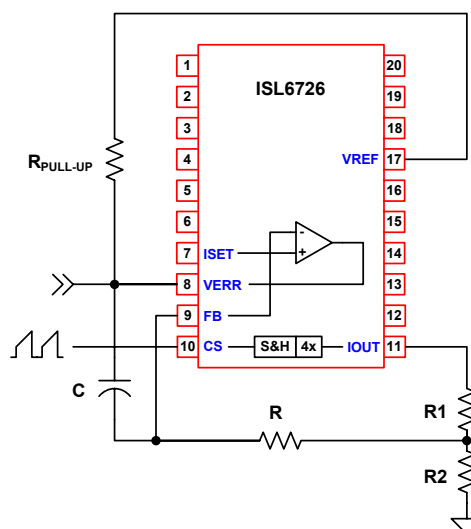

FIGURE 13. AVERAGE CURRENT CONFIGURATION
IOUT may be used with the available error amplifier (EA) of the ISL6726 as shown in Figure 13. The error amplifier is typically configured as an integrator. As shown in Figure 13, IOUT is attenuated by resistors R_1 and R_2 so that the average current limit threshold can be set independently of the peak current limit threshold. The integrator bandwidth is determined by R and C. The current error amplifier is similar to the voltage EA found in most PWM controllers, except it cannot source current. VERR requires an external pull-up resistor.